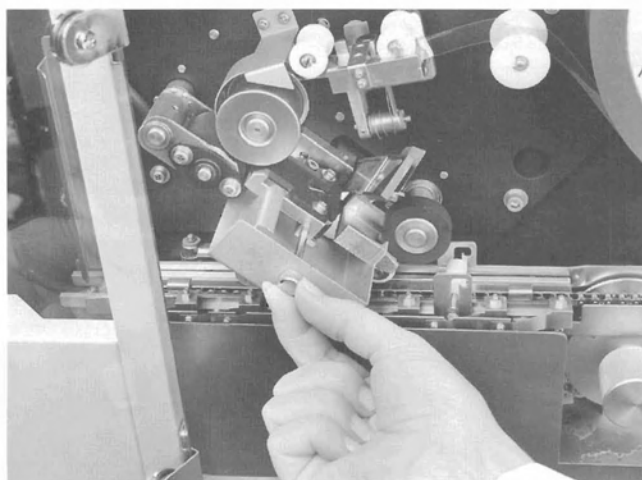

Figure 6-4
1. Turn the thumbscrew on the receiver tray counterclockwise until the screw is completely free of the instrument (Figure 6-4).